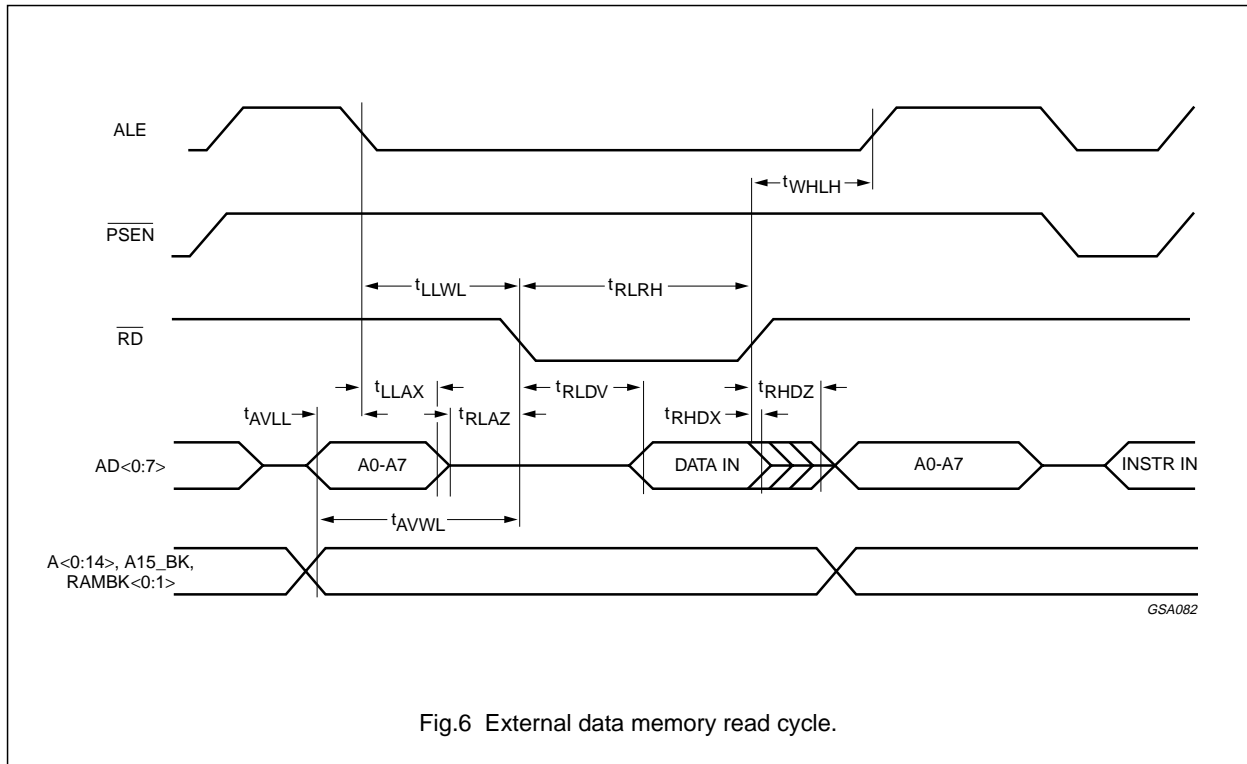
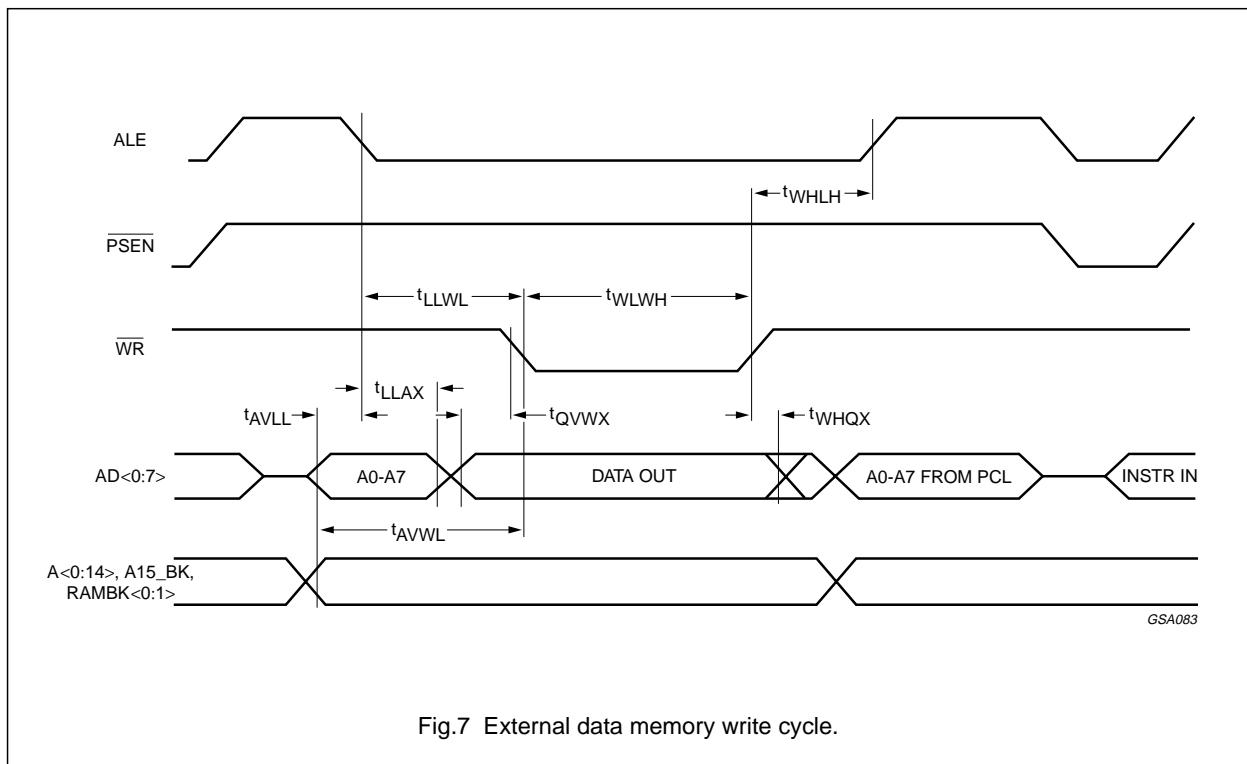

Fig.6 External data memory read cycle.
Fig.7 External data memory write cycle.
**Table 4** External data memory access (see Fig.6 and Fig.7)